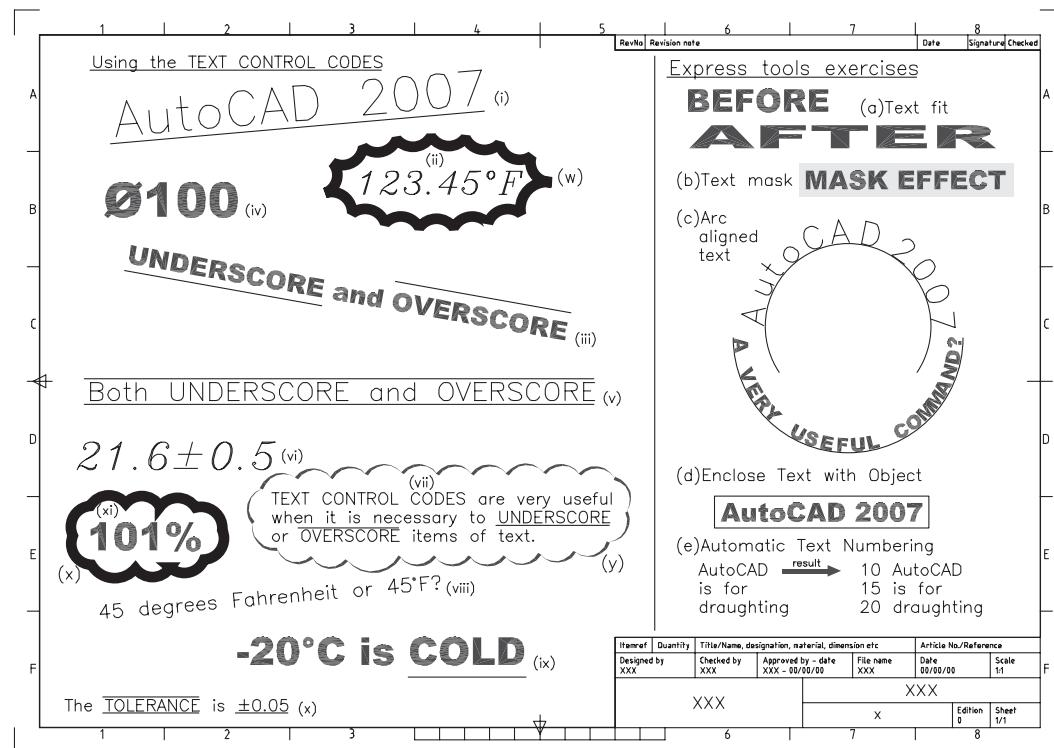

Figure 13.5 Using text control codes and Express Menu text.
- 5 Refer to Figure 13.5, select from the menu bar with **Draw-Text-Single Line Text** and:
enter	%%UAutoCAD 2007%%U <R><R> – Figure 13.5(i).
- d) text: 123.45% %DF – Figure 13.5(ii).
- d) text: %%UUNDERSCORE%%U and %%OOVERSORE%%O – Figure 13.5(iii).
- d) text: %%C100 – Figure 13.5(iv).
- 9 a) refer to Figure 13.5 and add the other text items designated by Figure 13.5(v)–(xi)
- 1 Refer to Figure 13.5, clear an area to the right of the sheet and attempt the following exercises.
Allows the user to ‘stretch or shrink’ an existing item of text as Figure 13.5(a), the user:
b) to demonstrate the Figure 13.5(b) effect, create an item of text then menu bar with
Allows text to be aligned with an arc or trimmed circle as Figure 13.5(c). It will not work with full circles:
a) creates a user-defined frame around a text item as Figure 13.5(d)
- a) will number text items according to user specific entry as Figure 13.5(e)